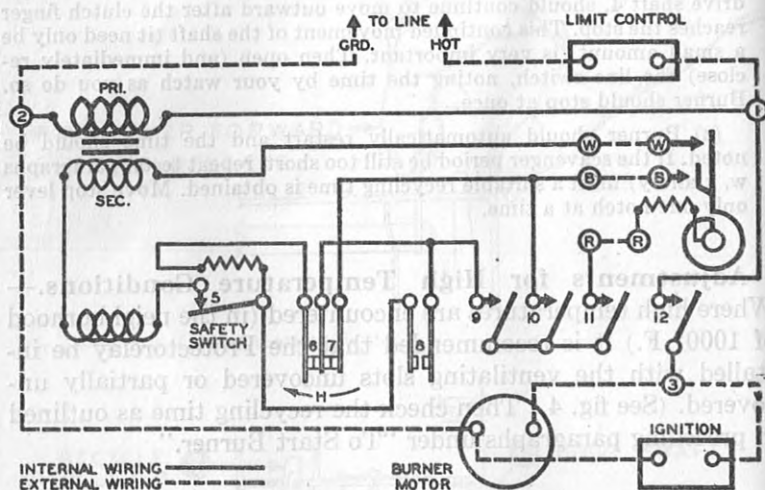

FIG. 8—Schematic circuit of type RA116A primary control ("Protectorelay").
**Operation.**—Refer to fig. 8. When burner is idle, cold contacts 6 and 7 are closed, hot contact 8 is open, safety switch contact 5 is closed, and the relay is out.